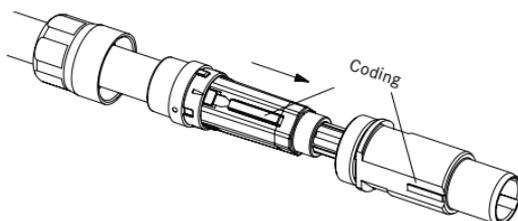

Figure XI-18
- Slide this assembly into the housing. Observe the coding (Figure XI-18).